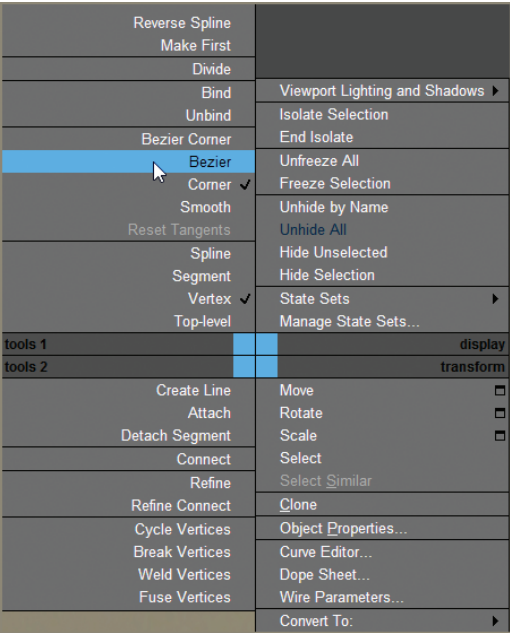

FIGURE 2.22 Use the quad menu to modify the vertex type.
- 8. In the upper-left quadrant of the quad menu, choose Bezier, as shown in Figure 2.22.